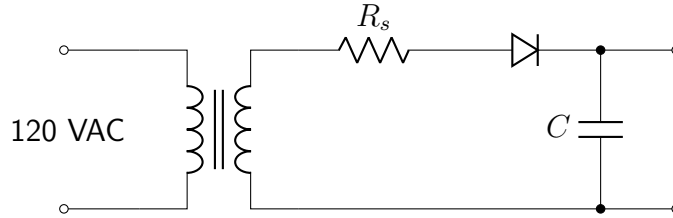

Figure 2: Half-wave rectifier circuit
Voltage regulators are often used to regulate the output of circuits that transform alternating current into unregulated DC. An example is a circuit shown in Figure 2, which uses a transformer
1. Capture the schematic of the power supply shown in Figure 2 in Multisim.